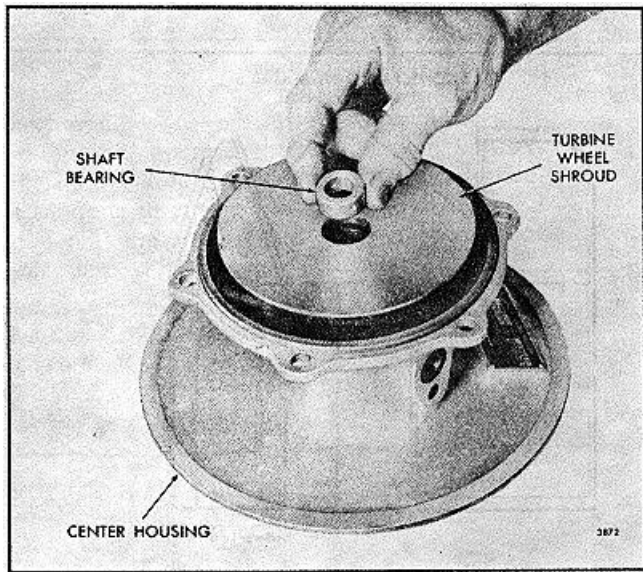

FIG. 22 - Installing Shaft Bearing in Center Housing (Turbine End)
- d. Lubricate the outside diameter of a shaft bearing with engine oil, then place the bearing straight into the bearing bore in the center housing as shown in Fig. 22 and push it down against the wear spacer. On former turbochargers, push it down against the bearing inner retaining ring.